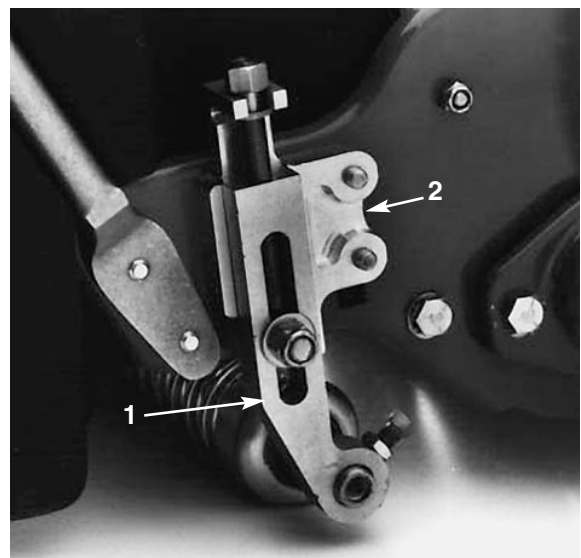

Figure 6
2. Loosen the locknuts securing the height-of-cut arms to the height-of-cut brackets (Fig. 6).